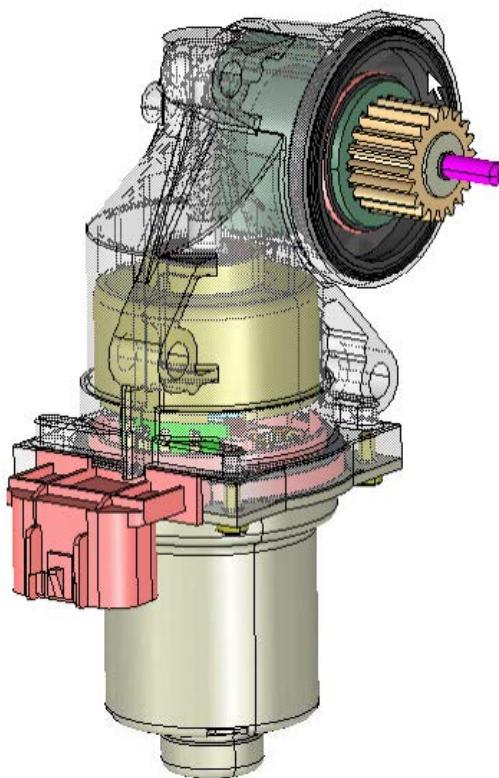

Figure 2: Typical Transfer Case Actuator Motor Assembly
3.1.2.1.1 Typical transfer case actuator motor assembly. See Figure 2.